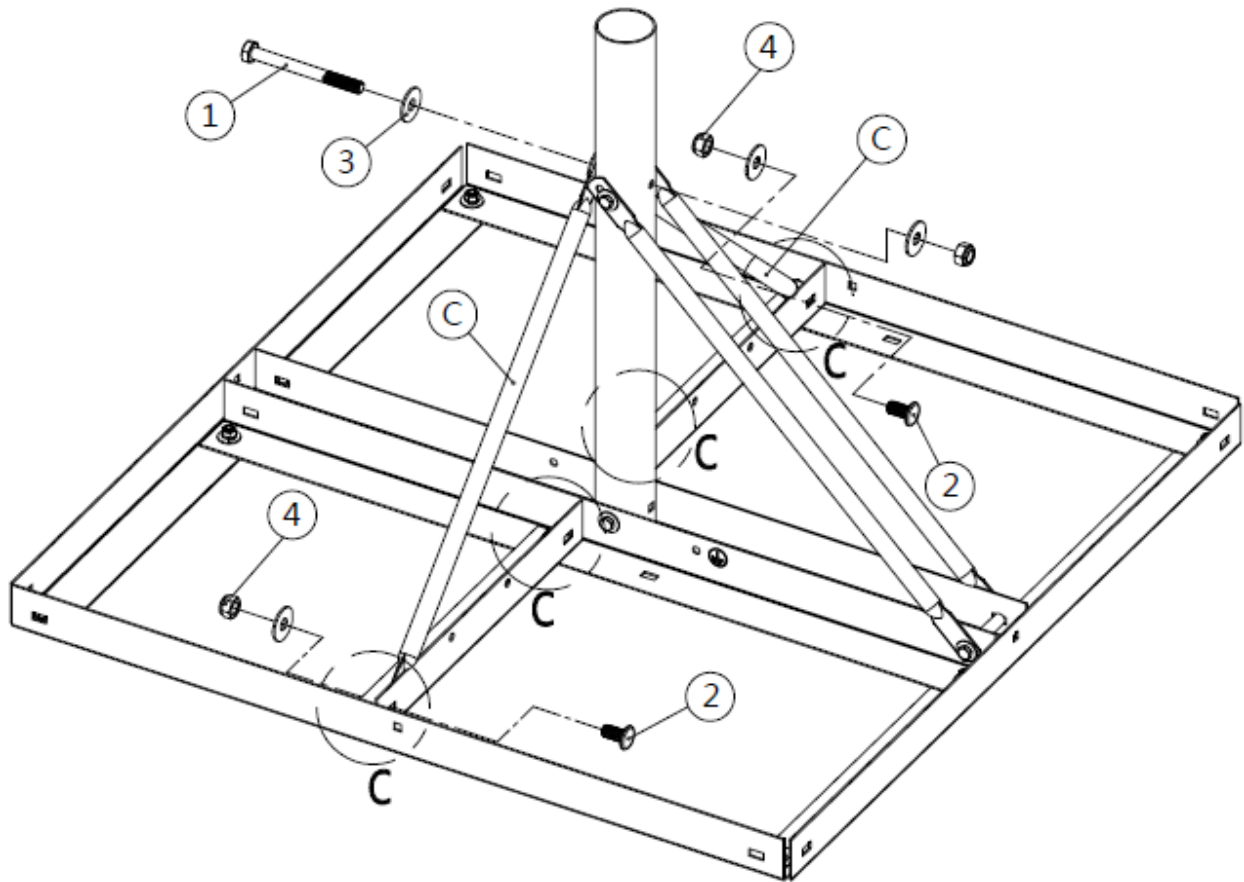

Figure 32: Installing the second two side supporting rods
5. Assemble the second set of two supporting rods (C) as shown in Figure 32 below. Each supporting rod is secured to the base using a round flat head square screw (2), one washer (3) and one nut (4).